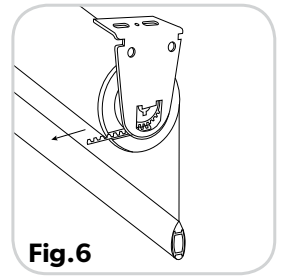

Fig.6
- E. Gently pull down on shade until red tension wheel break is completely removed from tension wheel. (Fig. 6)